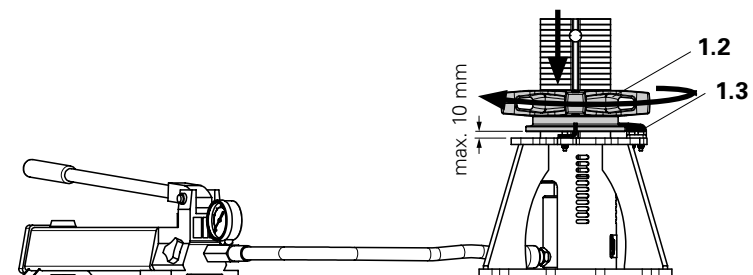

Fig. A5.04
4. Rotate adjusting nut downwards in a clockwise direction by hand until the adjusting nut rests on the plate. (Fig. A5.04)